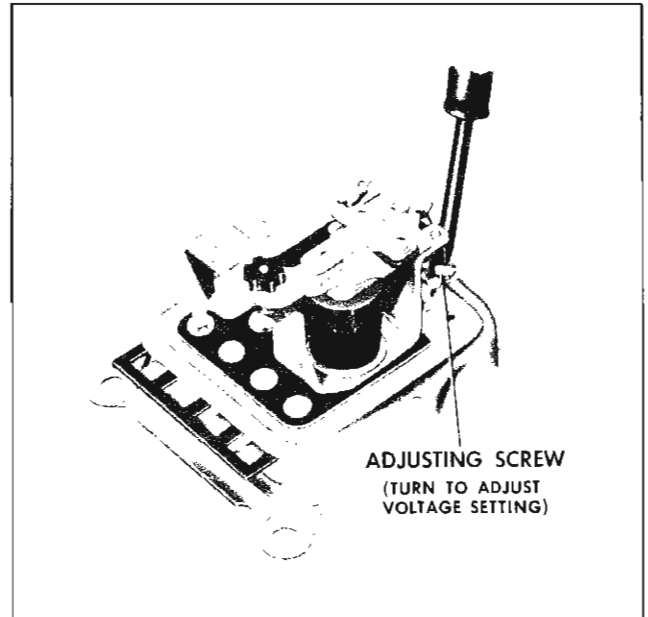

Fig. 11-32 Adjusting Voltage Setting
5. To adjust the voltage setting while operating on the upper or shorting contacts, turn the adjusting screw as shown in Fig. 11-32.
**CAUTION:** Final adjustment should always be made by increasing spring tension to assure contact between the screw head and spring support (Fig. 11-32).